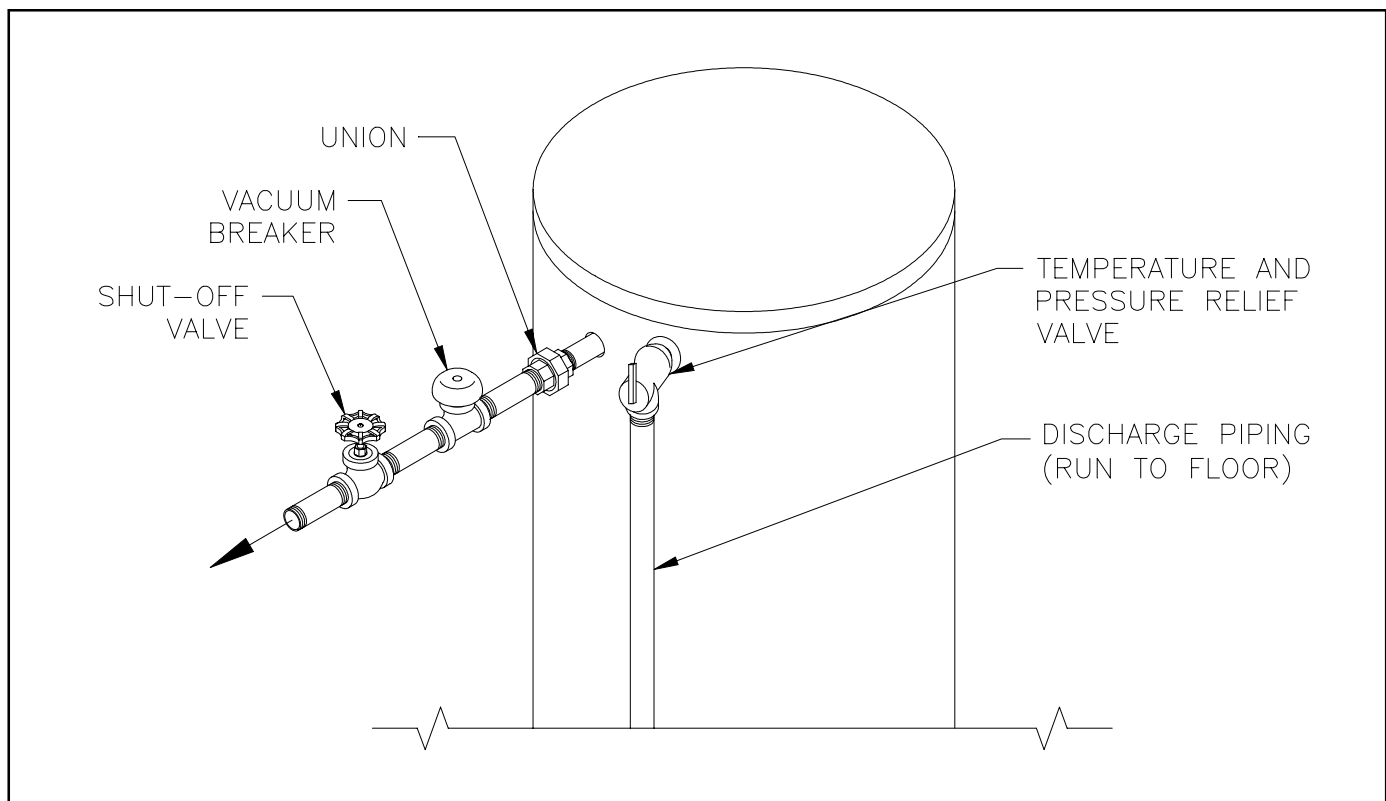

Figure 1: Hot Water and Relief Valve Piping
C. Connect domestic hot water piping (see Figure 1).